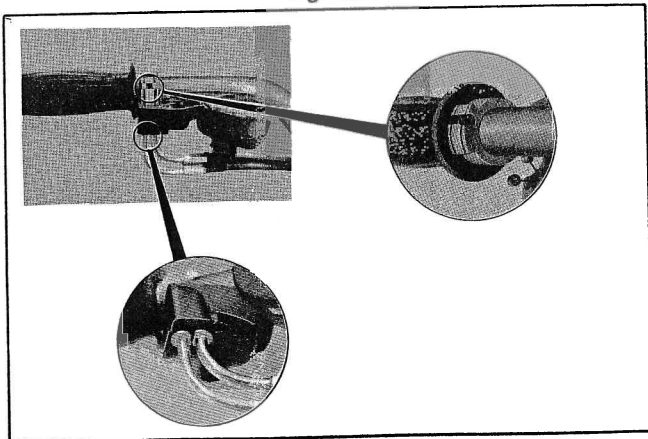

Fig. 24
20. Thread the two throttle wires through the two holes in the lower handle lever holder. Hook the throttle cable ends into their seats in the throttle guide housing. Then, grease the throttle cables and handle lever holder. Next, bolt the upper and lower handle lever holders together, and check the accelerator grip for smooth action. (Fig. 24)